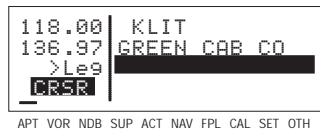

Figure 4-169
4. Press **[ENT]** to approve each line of remarks. The cursor will automatically move to the next line (see figure 4-169).